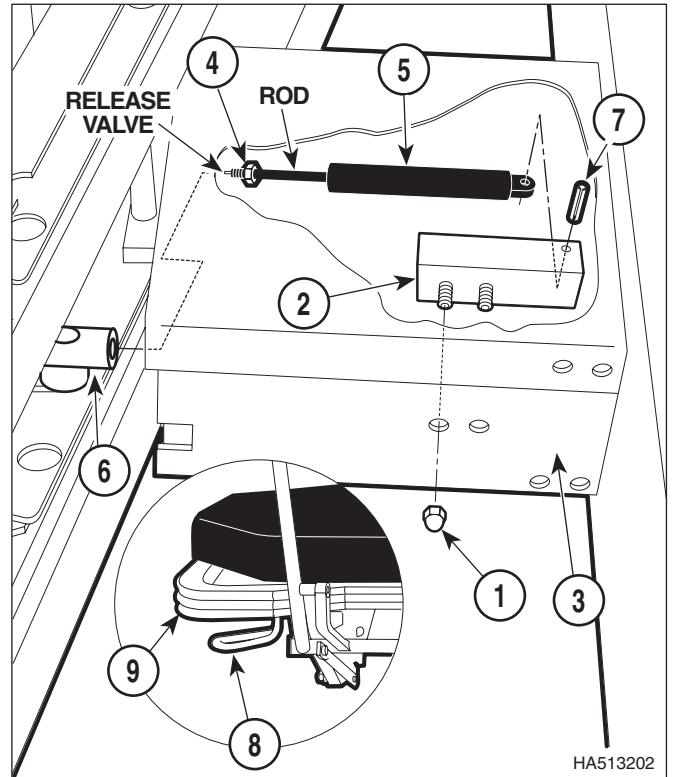

Figure 4-22. Trendelenburg Gas Spring Removal / Installation (511 and 516 only)
- (1) Depress a caster control pedal to the "brake" position.
- (2) Remove two acorn nuts (1, Figure 4-22) and separate bracket (2) from column (3).
- (3) Loosen jam nut (4).